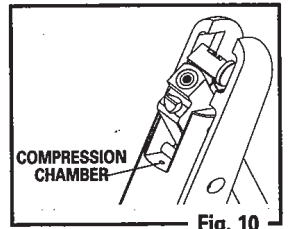

Fig. 10
- To ensure that your air rifle maintains uniform power, it is important that you apply a drop of Crosman RMCOL every few hundred shots into the compression chamber. (Fig. 10) The external metal parts should be cleaned with a cloth that has RMCOL on it.